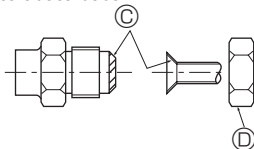

Fig. 4-2
4.2. Connecting pipes (Fig. 4-1) (Fig. 4-2)
[Fig. 4-2]